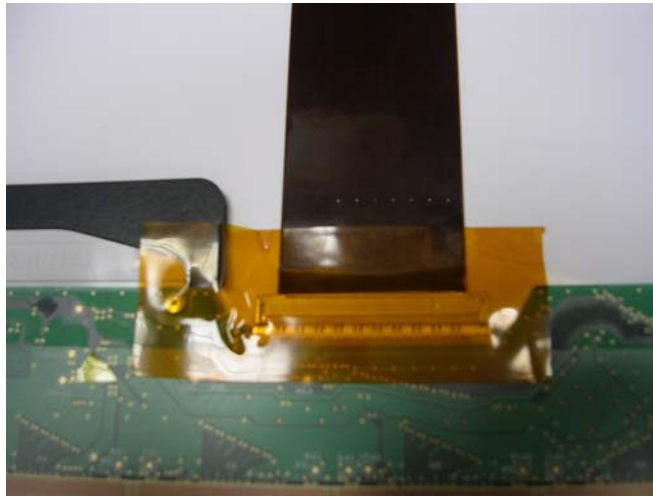

Figure 8-52 Adhering Kapton Tape on the LCD Rear Panel Connector
- 4) Adhere the kapton tape on the LCD rear panel connector, see Figure 8-52.